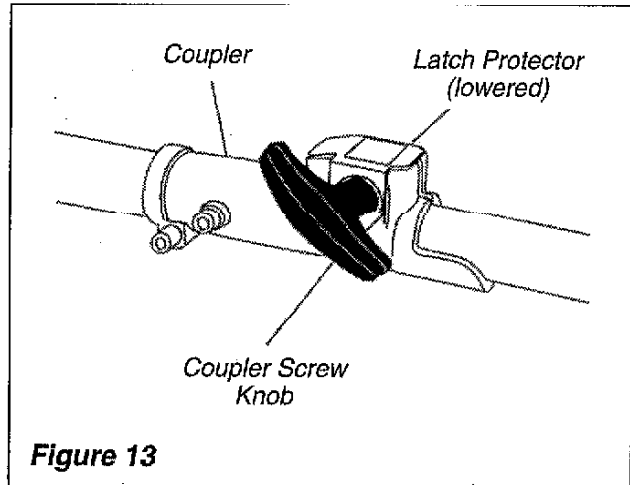

Figure 13
4. When the two tube halves are locked together, press down on the spring-loaded latch protector and tighten the coupler screw. See Figure 13.